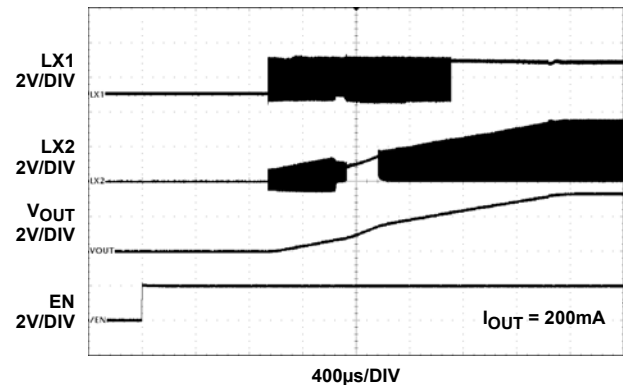

FIGURE 2. ISL91127IR START-UP WITH $V_{IN} = 2\text{V}$ AND $V_{OUT} = 3.3\text{V}$
Refer to the following Quick Setup Guide to configure and power-up the board for proper operation. During the power-up process, the expected waveforms are shown in Figures 2 and 3.
7. Monitor the output voltage start-up sequence on the scope. The waveforms will look similar to that shown in Figures 2 and 3.